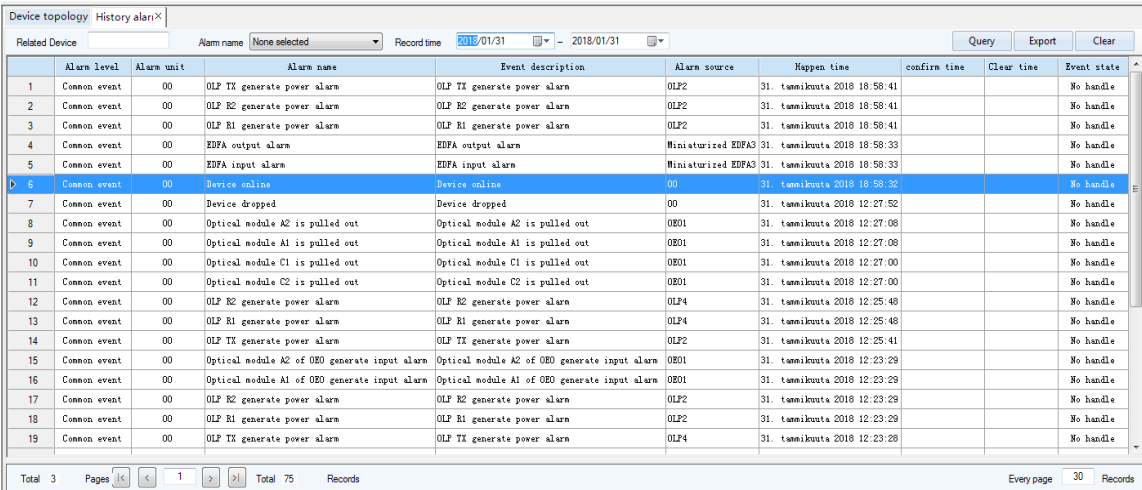

Fig.6.4 History alarm
- (3) Record time: Choose start date and end date, click query button, then you can see all alarm information of selected period (see Fig.6.4).